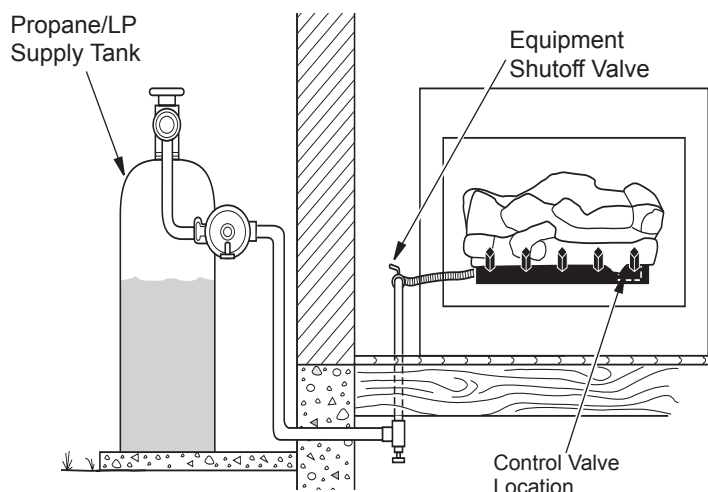
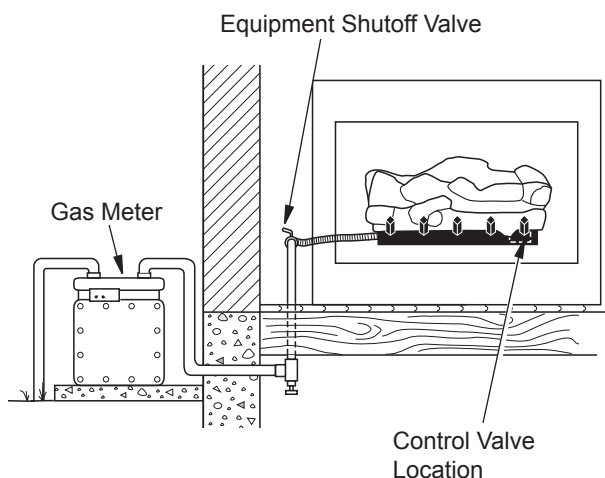

Figure 14- Checking Gas Joints (Propane/LP Only)
Figure 15 - Checking Gas Joints (Natural Gas Only)
3. Check all joints from gas meter to equipment shutoff valve for natural gas or propane/LP supply to equipment shutoff valve for propane/LP (see Figure 14 or Figure 15, Page 10). Apply noncorrosive leak detection fluid to all joints. Bubbles forming show a leak.
4. Check all joints from gas meter to equipment shutoff valve for natural gas or propane/LP supply to equipment shutoff valve for propane/LP (see Figure 14, Page 9 or Figure 15, Page 10). Apply noncorrosive leak detection fluid to all joints. Bubbles forming show a leak.